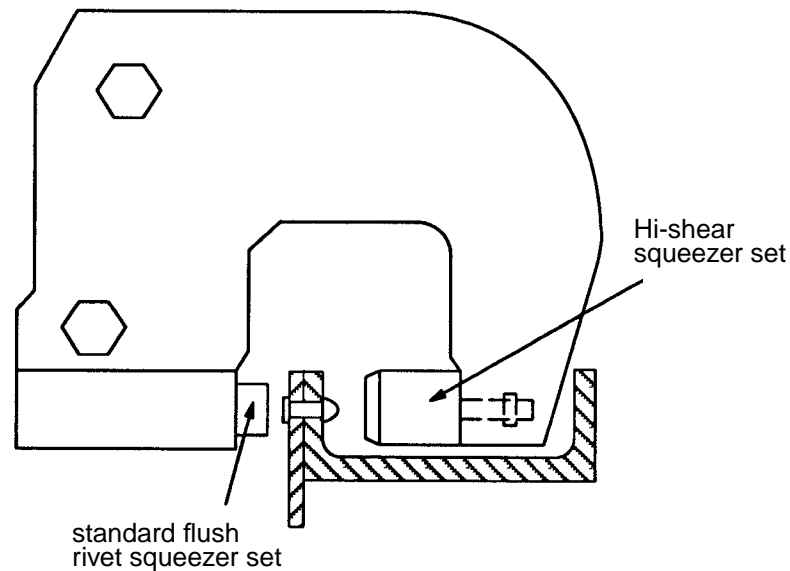

Figure 13 - Squeeze Riveting Method for Hi-Shear Rivets
5.6.2 Swage collars onto Hi-Shear rivets using the squeeze riveting method as follows (see Figure 13):